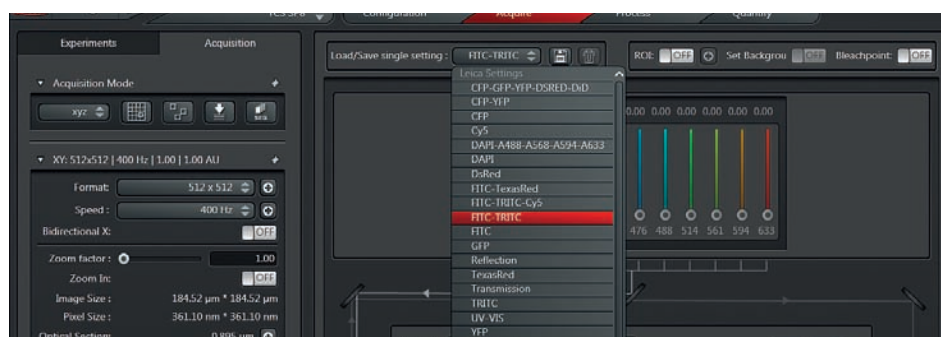

Figure 5: Loading the Leica IPS FITC/TRITC from the list of Leica Single Settings
1. Load the Leica IPS FITC/TRITC from the list of Leica Single Settings in order to load hardware settings preset by Leica (**see Fig. 5**):